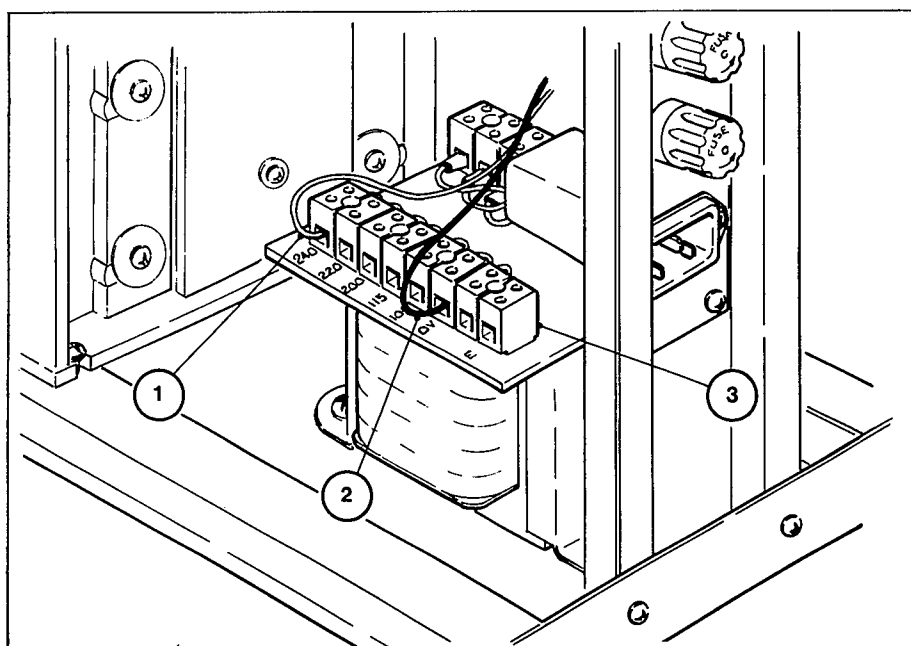

Figure 2.2 Voltage Selector
4. Locate the voltage selector terminal block, refer to Figure 2.2, and disconnect the brown lead.
8. Refer to Section 4.3 (925) or 4.4 (926) and check the calibration.